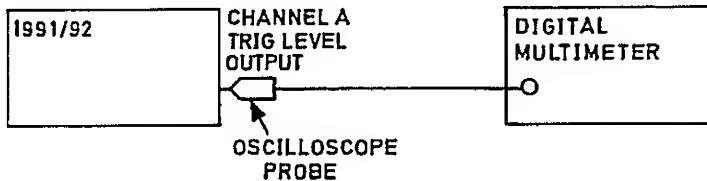

Fig 7.25 Connections for Trigger Level PVP
62 (1) Connect the test equipment as shown in Fig 7.25.
(2) Set the multimeter to measure DC volts.
(3) Press **TRIG LEVEL** **5** **TRIG LEVEL** on channels A and B.
(4) Verify that the multimeter indicates $+5\text{ V} \pm 60\text{ mV}$.
(5) Transfer the probe to the channel B TRIG LEVEL OUTPUT pin and verify that the multimeter indicates $+5\text{ V} \pm 60\text{ mV}$.
(6) Press **TRIG LEVEL** **0** **TRIG LEVEL** on channels A and B.
(7) Verify that the multimeter indicates $0\text{ V} \pm 10\text{ mV}$.
(8) Transfer the probe to the channel A TRIG LEVEL OUTPUT pin and verify that the multimeter indicates $0\text{ V} \pm 10\text{ mV}$.
(9) Press **TRIG LEVEL** **5** **SHIFT** **\pm** **TRIG LEVEL**
(10) Verify that the multimeter indicates $-5\text{ V} \pm 60\text{ mV}$.
(11) Transfer the probe to the channel B TRIG LEVEL OUTPUT pin and verify that the multimeter indicates $-5\text{ V} \pm 60\text{ mV}$.